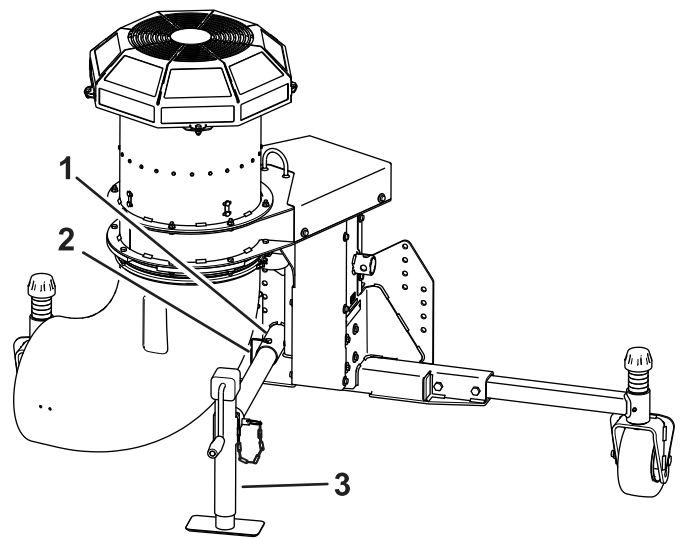

**Figure 7**
8. Remove the strap from the pallet and attach it to the lift loop on the blower (Figure 7).